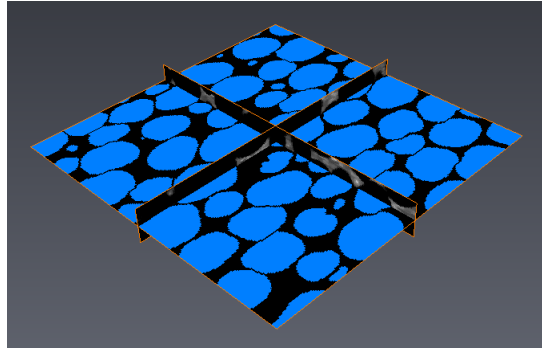

Figure 4.7: The particles are now separated
- Attach the first *Ortho Slice* to the new data. See the resulting display on Figure 4.7.